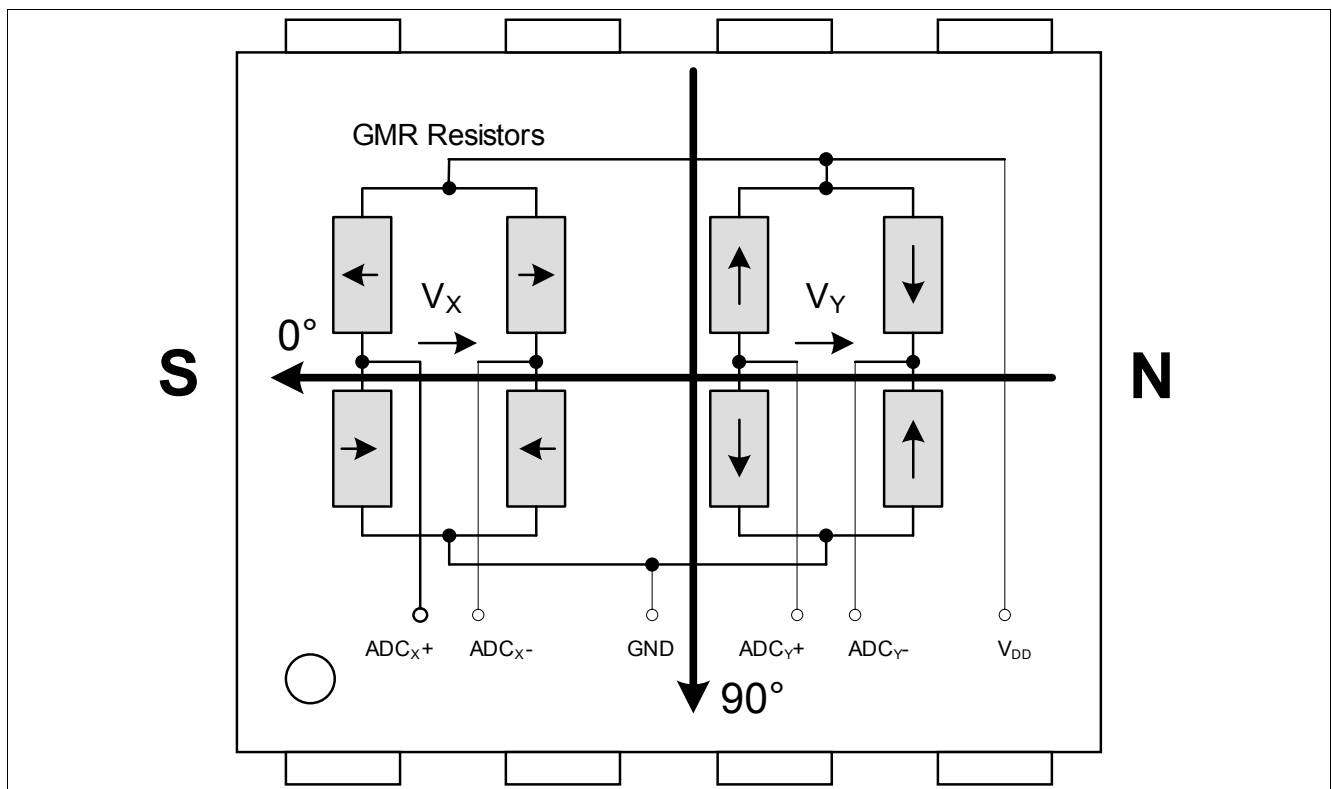

Figure 2 Sensitive bridges of the GMR sensor (not to scale)
**Attention:** Due to the rotational placement inaccuracy of the sensor IC in the package, the sensors 0° position may deviate by up to 3° from the package edge direction indicated in Figure 2.
In Figure 2, the arrows in the resistors represent the magnetic direction which is fixed in the reference layer. If the external magnetic field is parallel to the direction of the Reference Layer, the resistance is minimal. If they are anti-parallel, resistance is maximal.